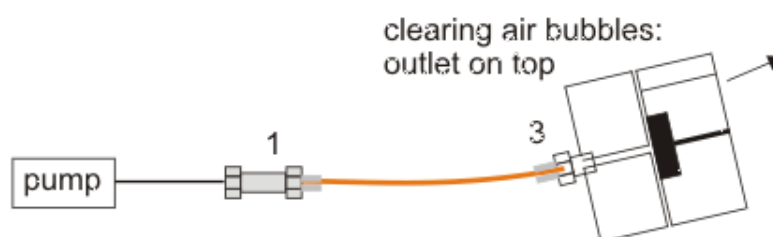

Fig. 21. Filling a VT-03 micro flow cell at 200 – 400  $\mu\text{L}/\text{min}$  using a low dead-volume connector (1). Pressure must not rise > 200 bar.
**When disconnecting the column, always slowly release pressure, or damage to the column will occur. Tighten low dead coupling (Fig. 21, 1) firmly to avoid snapping out of the capillary. Sudden pressure drop will destroy column performance and pulse dampener!**